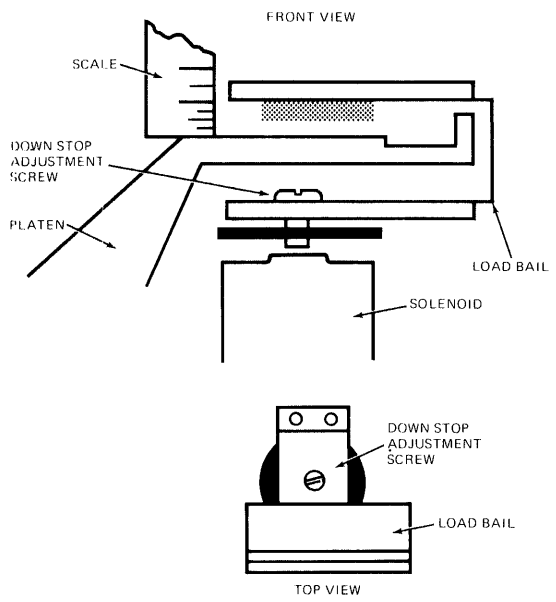

FIGURE 14. HEAD LOAD BAIL ADJUSTMENT
- b. Adjust the down stop screw to obtain 3/16" to 1/4" from the top flat surface of the load bail and the platen. Reference figure 14.